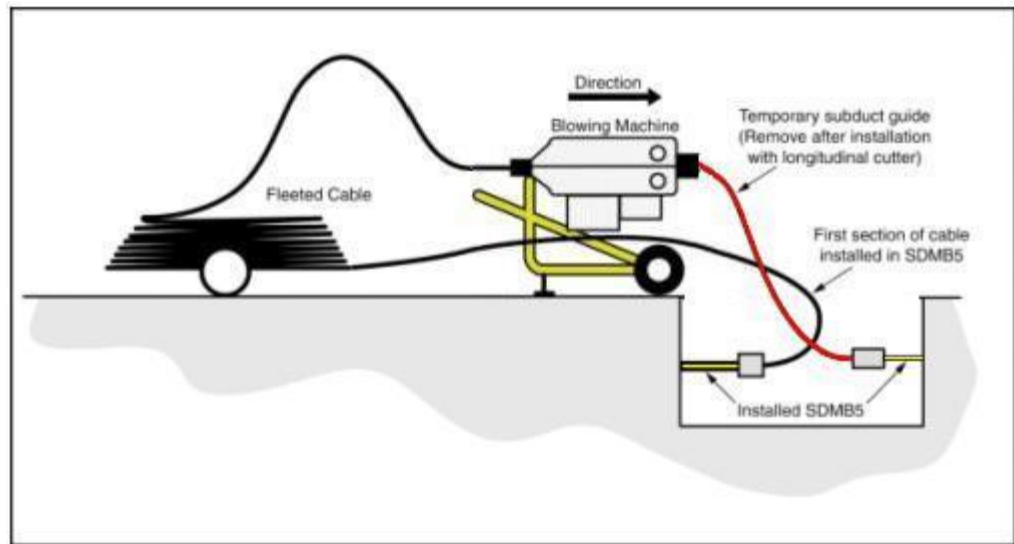

Figure 5 Schematic diagram showing correct layout of plant and equipment to install section of cable for mid point installation
Note: A 15metre loop of cable is recommended between the fleeter trailer and the box, to allow the trailer to be moved back from the box as shown in Figure 5. Failure to do this may make the configuration shown in Figure 5 impossible. The 15 metre loop can then be used as a maintenance coil at that box. It is also recommended that the fleeter trailer is sited in a level position on firm ground, as this will ensure that the fleeing arm operates smoothly.
7. Re-position Cable Blowing Machine and plant in preparation for installing second section of cable (see Figure 5). Ensure that neither the SDMB5 nor cable has been fed under any hoses or equipment.